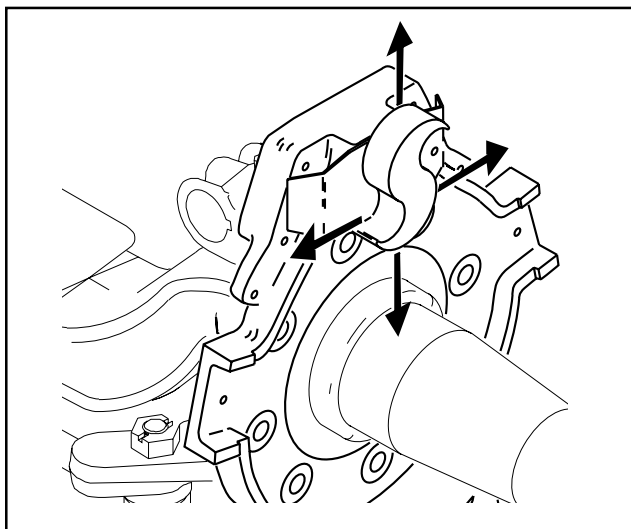

Figure 5
2. Inspect camshaft bushings for signs of wear. Bearing surfaces should be smooth and free of any pitting or fractures. Insert camshaft and measure looseness up and down side to side at both ends with a dial indicator. If more than .030" movement, replace bushings and/or camshaft. **See Figure 5.**